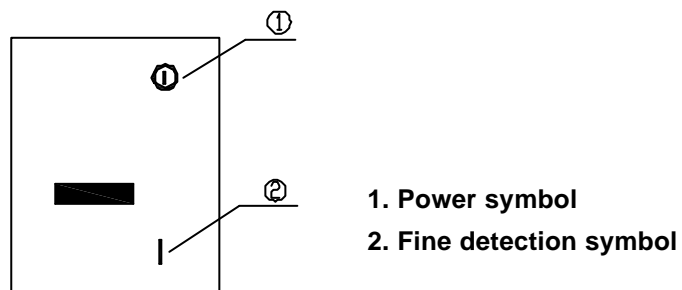

Figure 6
* When the instrument displays like figure 6, it is at the right position.